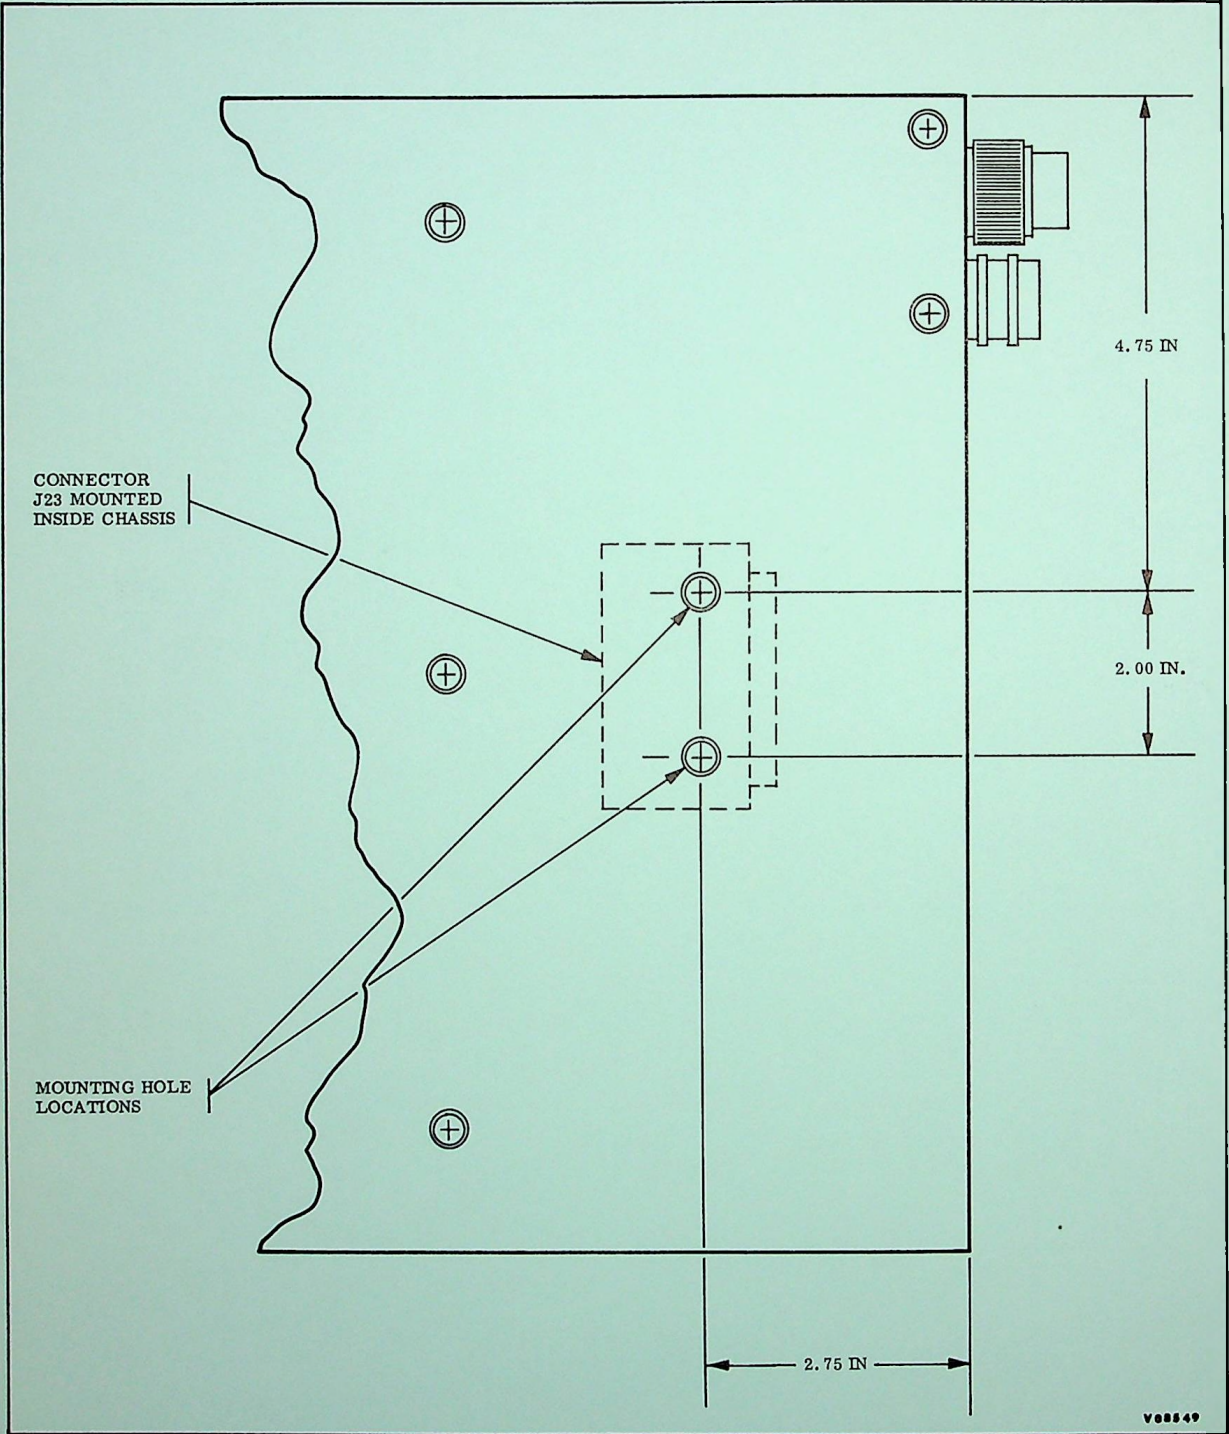

Figure 1. VR-1200 Signal System Modification - Connector Mounting
- b. Drill two 0.171-inch diameter holes in right side of signal system chassis as shown in Figure 1).